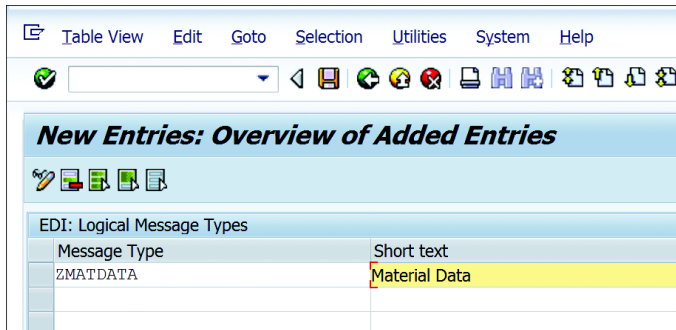

Figure 19.43 Maintain Message Type
1. On the initial screen of Transaction WE81, enter change mode and click the NEW ENTRIES button to maintain the new logical type and its description, as shown in Figure 19.43.